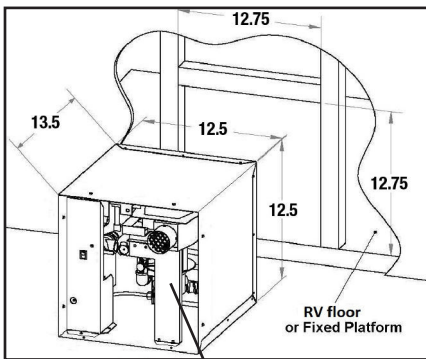

Figure 1 *Blower Assembly Support Bracket/Exhaust Tube*
- DO NOT lift the water heater or carry it by holding the blower assembly support bracket/exhaust tube (Figure 1).
Make sure that the front edge of the opening is surrounded by a solid frame to firmly anchor the water heater; if needed, build an appropriate frame using 2"X2" elements (Figure 1)
- Lifting or moving the water heater using the Blower Assembly Support Bracket/Exhaust Tube (Figure 1) may result in improper alignment of the vent and/or improper alignment of the Sail Switch.